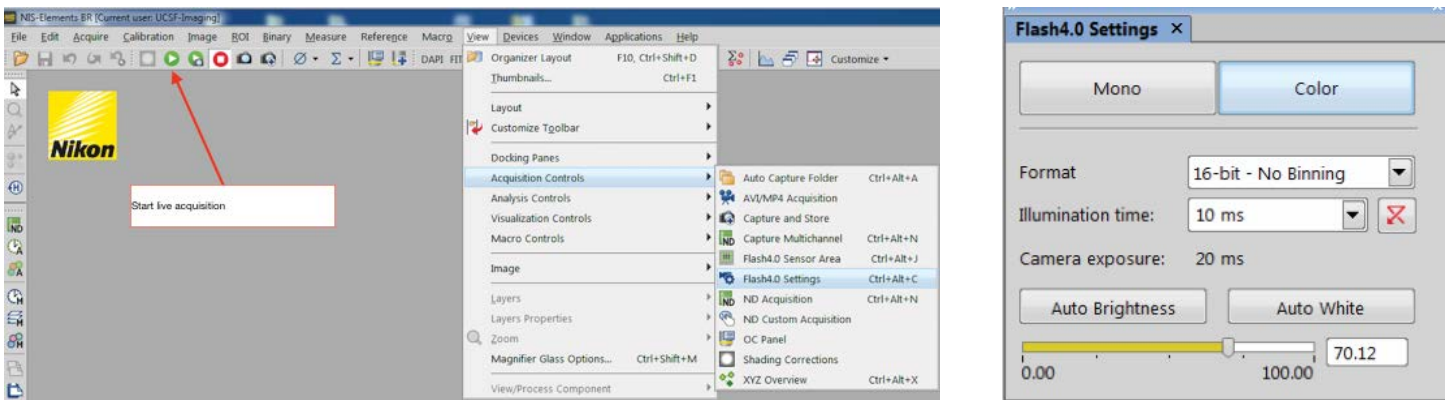

Figure 4. (Left) How to access the Camera settings: View> Acquisition Controls > Flash 4.0 Settings. (Right) Camera control pad.
4. To show the camera control settings, go to View > Acquisition Control > Flash 4.0 Settings. Select the COLOR button on the camera control pad (Figure 4).
7. Move the specimen to place the field of view of interest under or above the objective. Start live acquisition (Figure 4). System will then acquire and display near real-time color images.